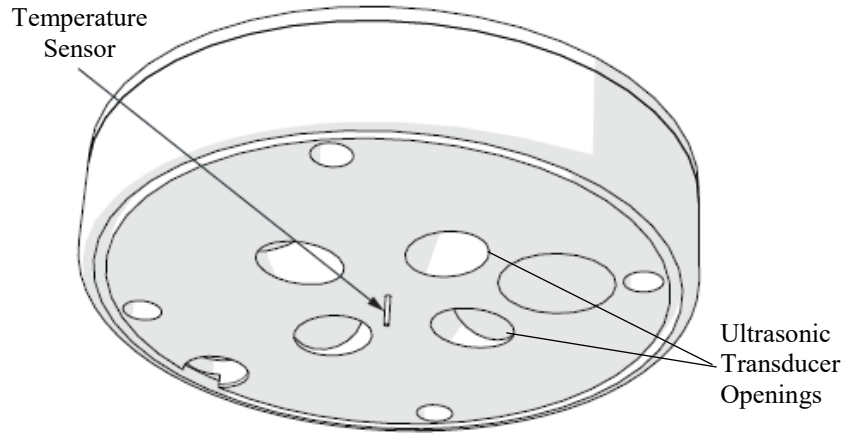

FIGURE 9-1. Temperature sensor and ultrasonic transducer openings
1. Remove cobwebs, leaves, bird droppings, wasp nests, or other debris from the temperature sensor (FIGURE 9-1), ultrasonic transducer openings
(FIGURE 9-1), rain gage funnel (FIGURE 9-2), pyranometer (FIGURE 9-2), and sintered glass reflection plate (FIGURE 9-3).
Gently clean the sonic transducers and do not allow water to enter the ultrasonic sensors (FIGURE 9-1). Water may corrode the metal parts inside the sensors and ruin them.